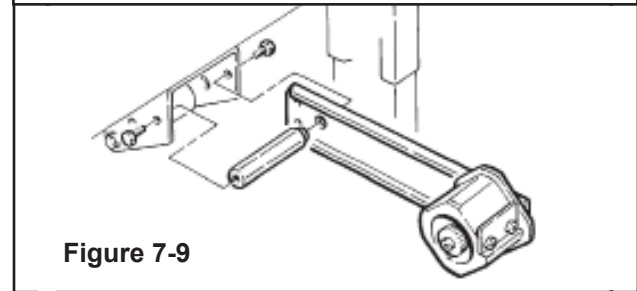

Figure 7-9
4. Install and secure tape drum bracket assembly on the entry end of the lower frame (as shown in **Figure 7-9**).